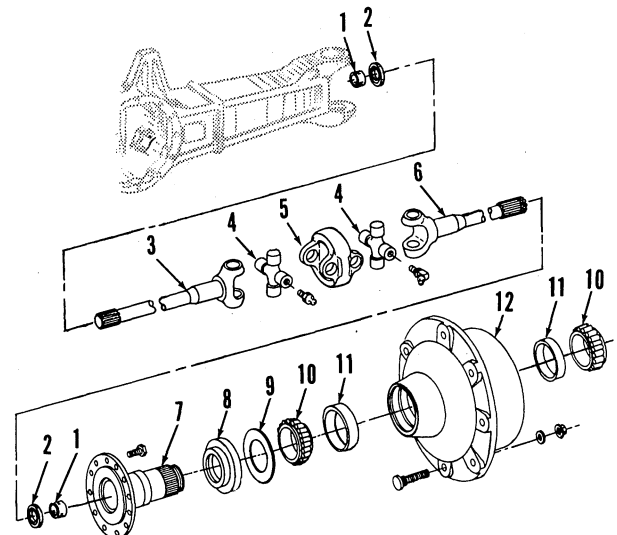

Fig. 22—Exploded view of wheel hub assembly and axle shaft assembly. Washer (9) is not used on 4650 and 4850 tractors.
To disassemble, drain oil from axle housing and planetary carrier. Remove planetary carrier, sun gear and ring gear as previously outlined. Withdraw wheel hub (12—Fig. 22) with bearings. Unbolt and remove spindle (7). Pull axle shaft (6) and U-joint assembly out of axle housing.
Illustration for Fig. 22 reproduced by permission of Deere & Company. Copyright Deere & Company.